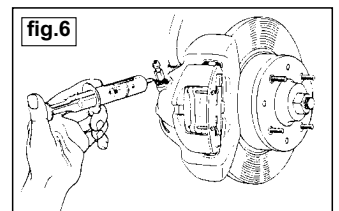

fig.6
- 3.17 Apply copper grease to the brake bleeding nipples before and after the brake bleeding procedure to eliminate the possibility of seized or broken nipples when the brakes are next bled. ( See fig.6 )